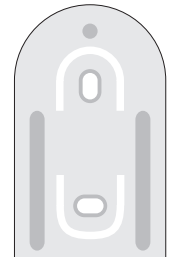

Figure 2
- Place the wall holder vertically against the wall with the round side pointing up (see figure 2).